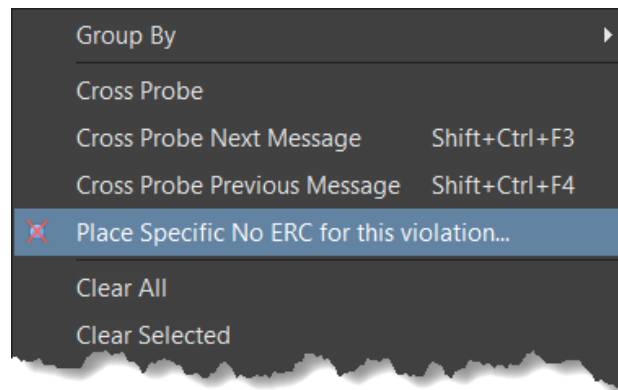

Figure 7. Place No ERC Directive directly from the Messages panel
- b) Select **Place Specific No ERC for this Violation...** from the menu as shown in Figure 7